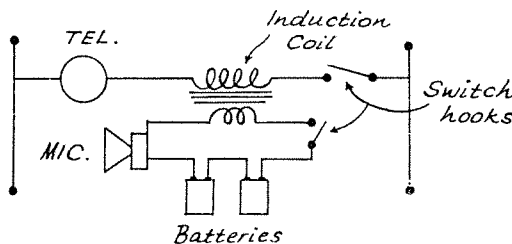

Fig. 29.
89. The telephone hand piece houses the receiver and microphone. A simplified diagram showing the functions of these two components illustrates the speech circuit. (See Fig. 29.)
92. The induction coil or transformer magnetically couples the microphone circuit to the lines *via* the receiver, so that D.C. battery current does not flow in the line. As seen in Fig. 29, it has two separate windings. The turns ratio is approximately 1:10 so that D.C. voltage fluctuations in the primary (microphone) circuit are magnified 10 times (ignoring losses) in the line circuit and conversely the current decreases 10 times in the line circuit. As long telephone lines naturally have a high resistance, owing to the economic restrictions on the line diameter, a higher voltage with lower current suffers least loss since—